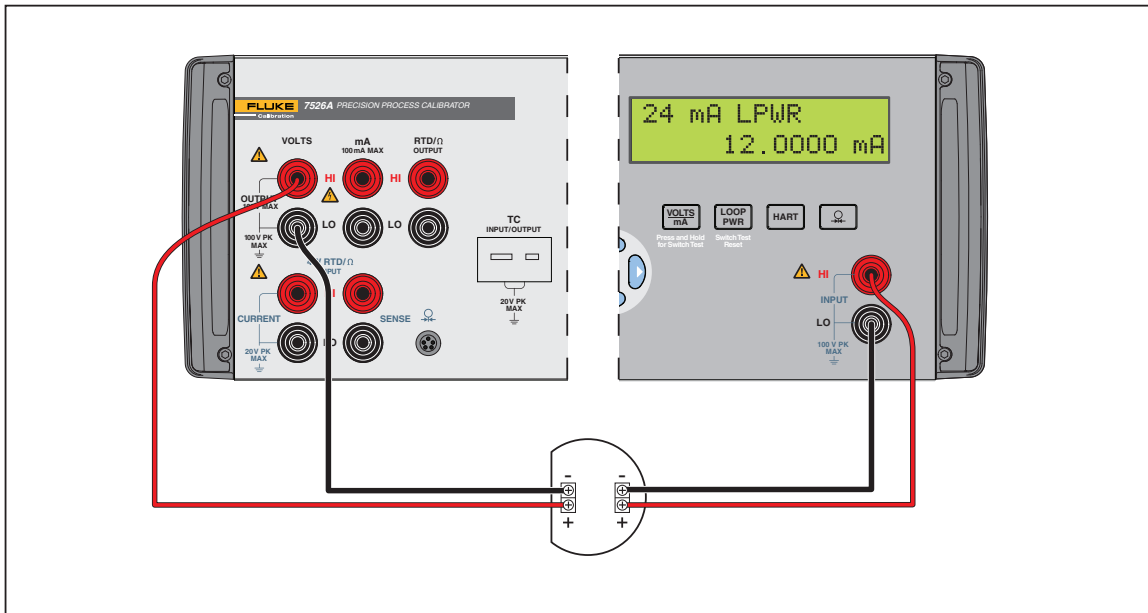

Figure 4-3. V/I Transmitter Application
4. Connect the transmitter as shown in Figure 4-3.